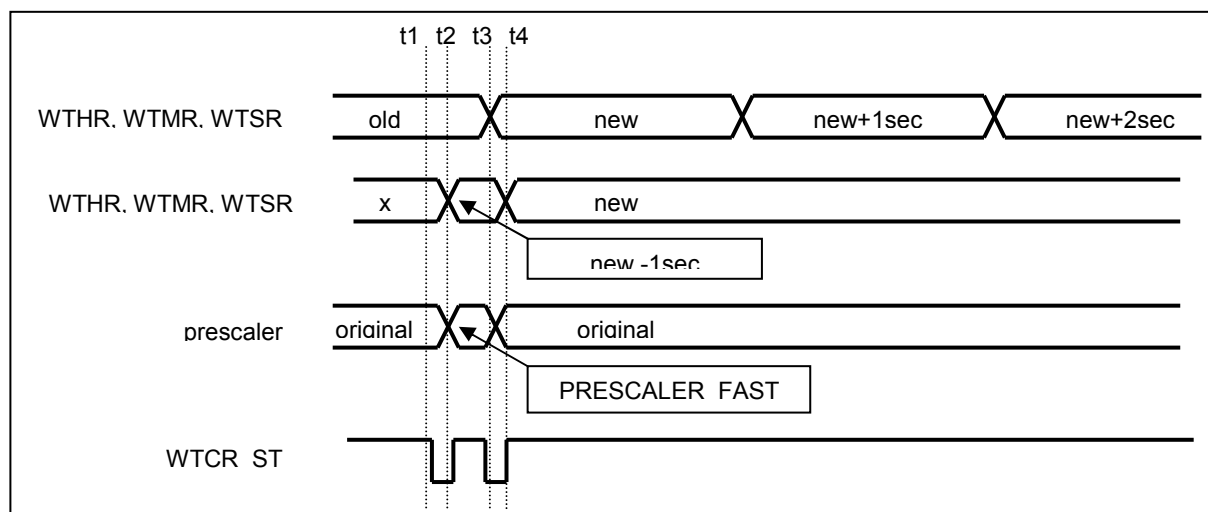

Figure 1 Note: The timescale of this figure is not exact.
- 1) Start of `set_rtc_routine` (approx. time t1 in Figure 1)
- 4) Stop RTC, disable interrupt (`WTCR=0`) (approx. time t1 in Figure 1)
- 9) Start RTC (`WTCR.ST=1`) (approx. time t2 in Figure 1)
- 10) Wait for subsecond overflow (wait until `WTCR.INT0==1`) (overflow appearance approx. at time t3 in Figure 1)
- 11) Stop RTC (`WTCR=0`) (approx. time t3 in Figure 1)
- 16) Restore control register `WTCR` (restart RTC) (approx. time t4 in Figure 1)
An implementation of this algorithm can be found in section 4. The runtime (time t4-t1 in Figure 1) of the `set_rtc_clock` function is listed in Table 1.